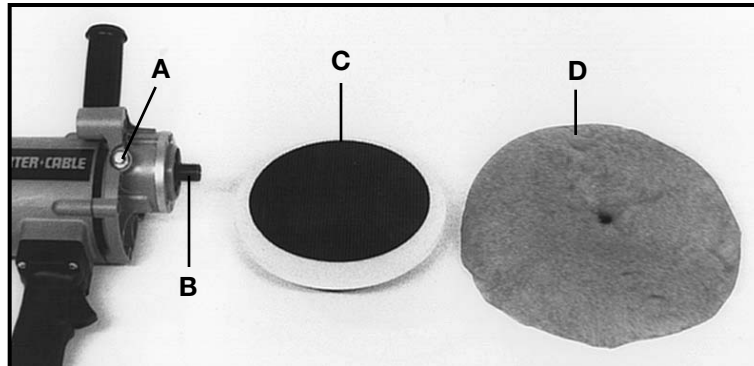

Fig. 8
2. Depress spindle lock pin (see Fig. 8) and rotate back-up pad clockwise onto spindle until it seats.